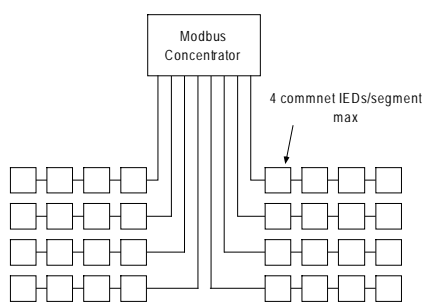

Figure 15. Network illustrating commnet Rule 1.
1. Each Modbus Concentrator supports up to eight commnet segments. Each commnet segment may support up to four commnet IEDs, only one of which may be a waveform-capturing meter. POWER LEADER Repeaters and Junction/Outlet Boxes are not counted as commnet IEDs. Figure 15 illustrates this rule.